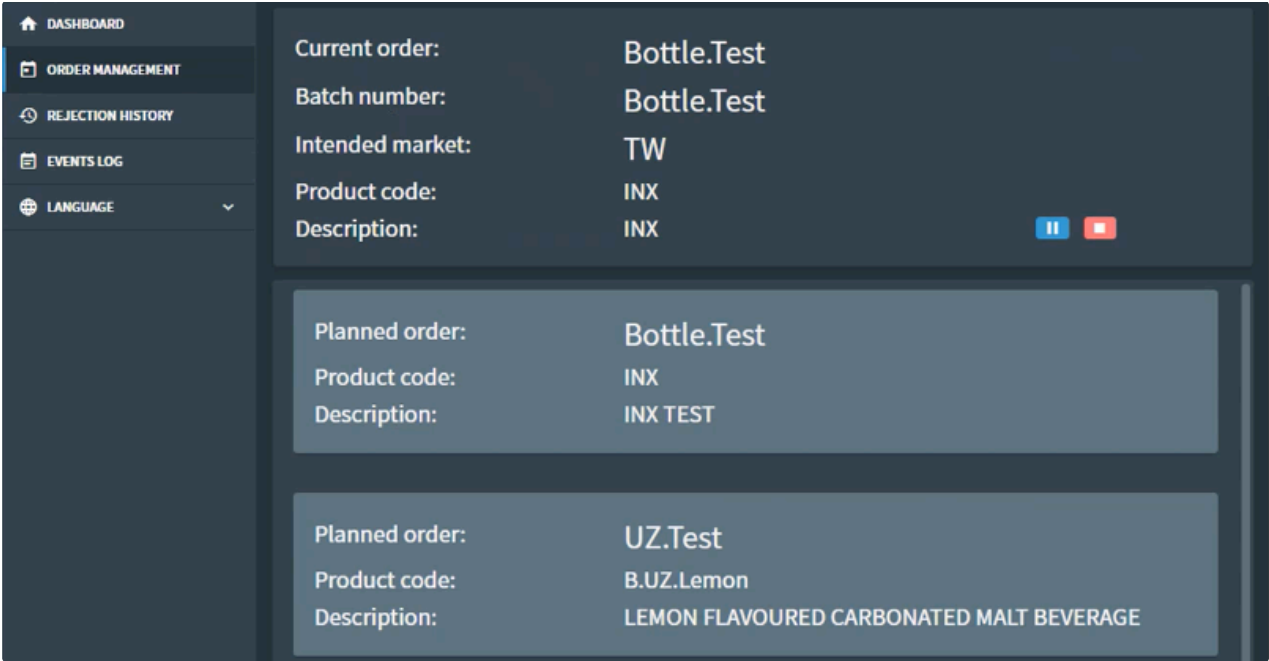

Figure 2: Activation Point System Showing Gate Production Orders
- If you encounter any unexpected issues while operating the software, consult the "Events Log" section (see Figure 2) and to help locate the potential issue.